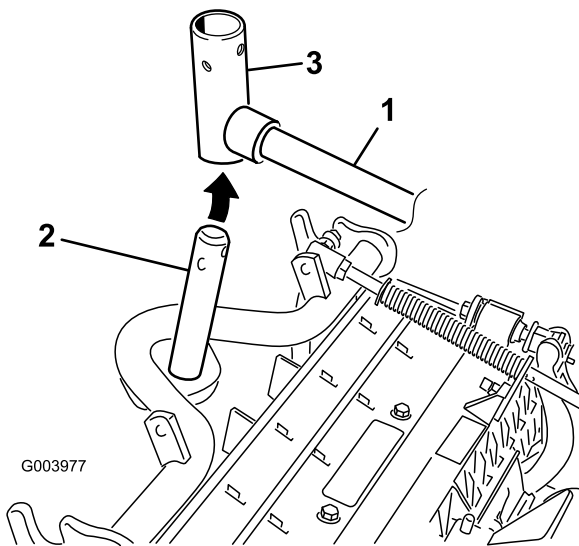

Figure 11
8. For the front cutting units, slide a cutting unit under the lift arm while inserting the carrier frame shaft up into the lift arm pivot yoke (Figure 11).
- B. Insert the lift arm yoke onto the carrier frame shaft (Figure 11).